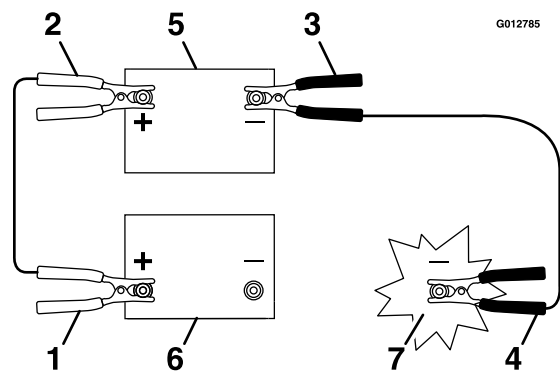

Figure 61
3. Connect the positive (+) cable to the positive (+) terminal of the discharged battery that is wired to the starter or solenoid as shown in Figure 61.